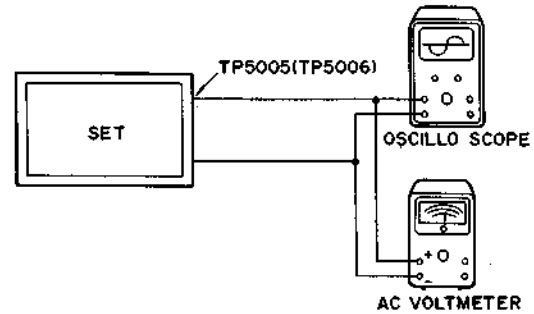

Figure 26
- (1) Make the connections as shown in Figure 26 and turn the power ON.
- (2) Insert the metal tape (TDK AC-712) into deck B and set to REC PLAY mode.
- (3) Set the metal bias volume VR5071 (VR5072) to the maximum in the mode set in (2). Adjust L5051 (L5052) so that the output of TP5005 (TP5006) becomes maximum.